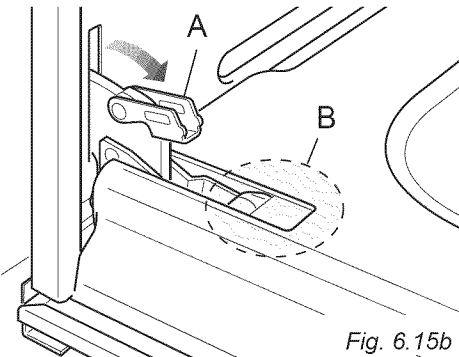
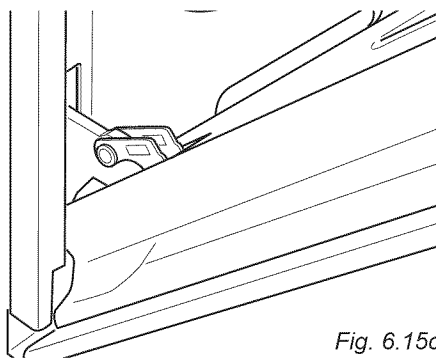

Fig. 6.15b
Fig. 6.15c
- Open the lever "A" completely on the left and right hinges (fig. 6.15b).
- Gently close the door (fig. 6.15c) until left and right hinge levers "A" are hooked to part "B" of the door (fig. 6.15b)